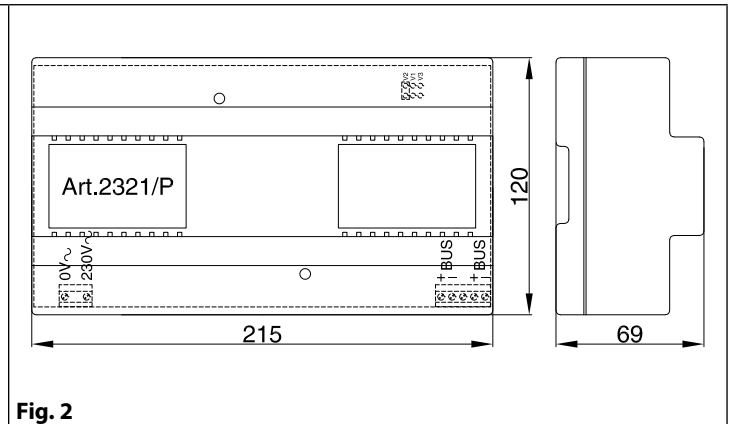

Fig. 2
- Pull outwards the top part of the cover as shown in Fig. 2. **Don't pull the cover straight.**